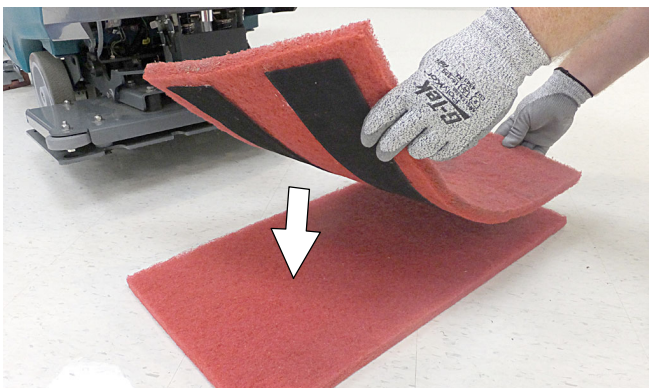

FIG. 14
2. Attach backer pad, retaining strips facing downward, to working pad (Figure 14).